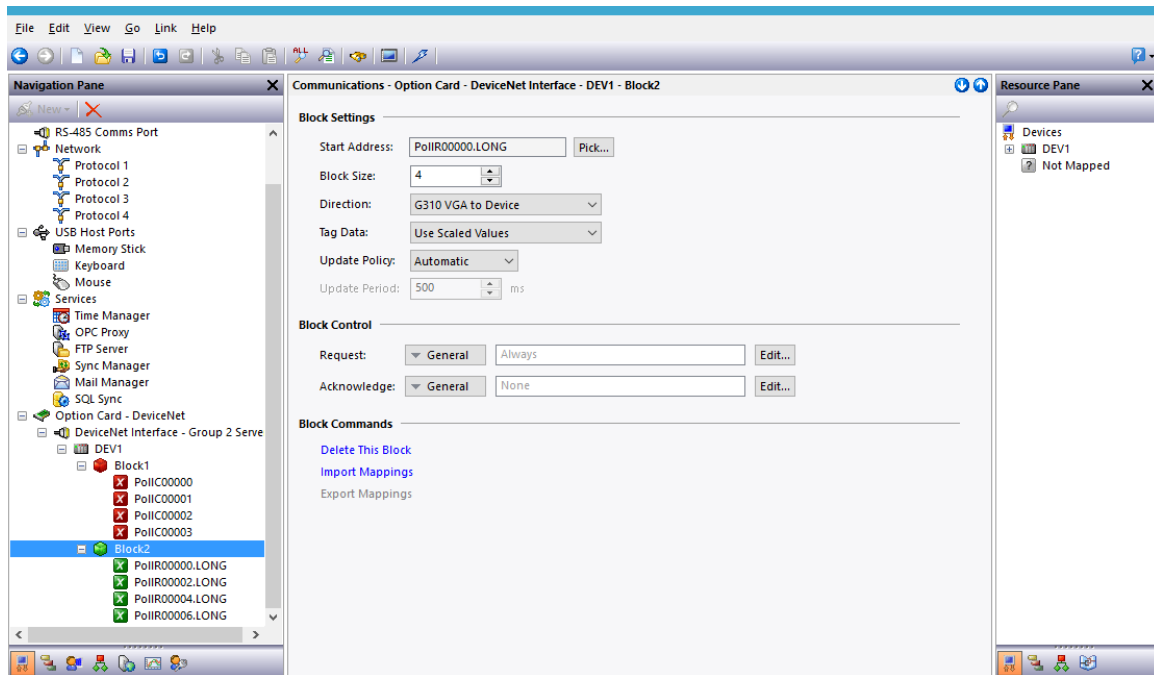

Figure 7.
4. Referring to Figure 7, set the Block Size to 4, and the Direction to *G310 VGA to Device*. This will be the Read Data block.